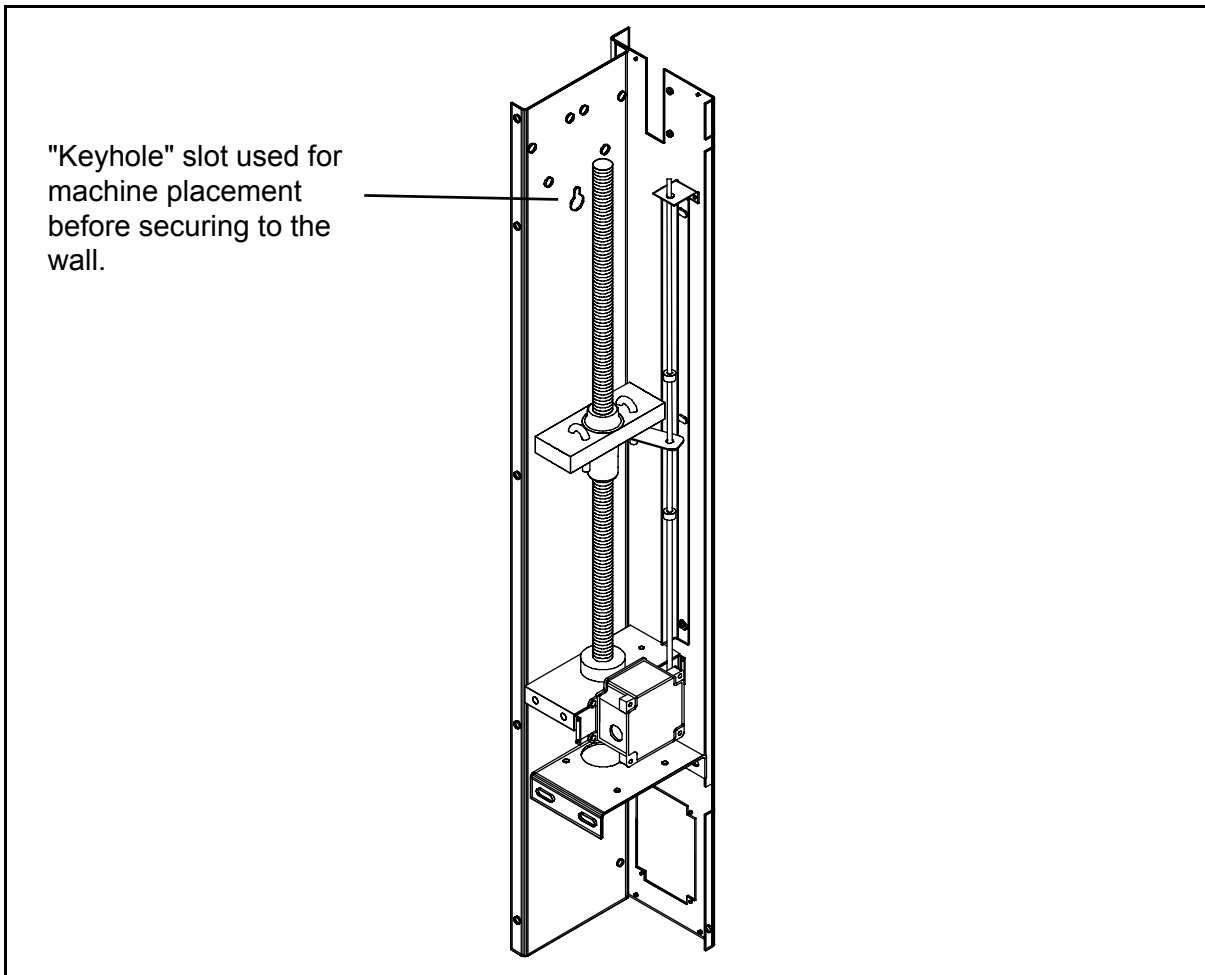

Figure: 3B
- Using the “keyhole” slot in the back of the Curtain Controller, hang the machine on the 3" lag bolt. (See Figure 3B)